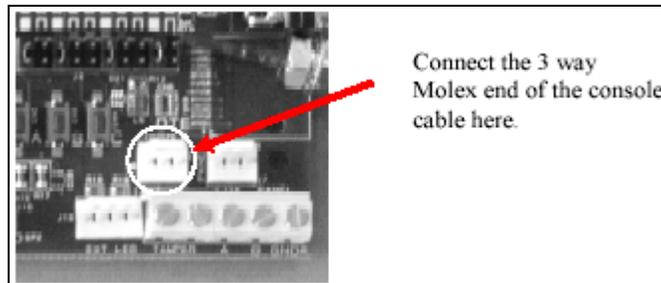

Figure 5: The 3-way Molex connector
1. Connect the 3-way Molex connector of the console cable to connector J6 on the WebWayOne 2424B Communicator. Figure 5 shows the Molex connector.